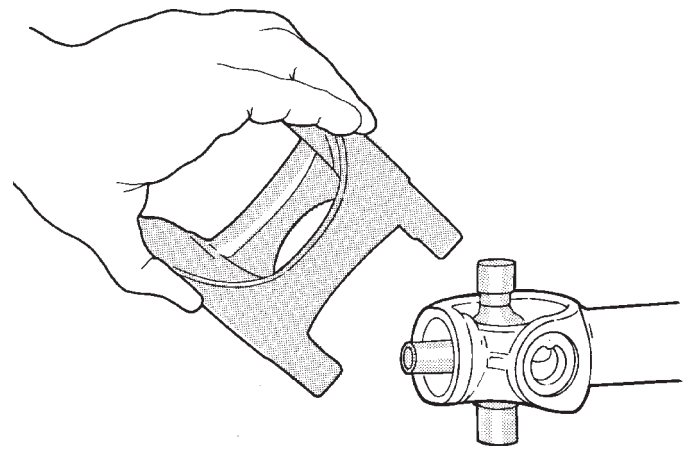

Fig. 31 Install Link Yoke
(7) Fit the link yoke on the remaining two trunnions and press both bearing caps into place (Fig. 31).
(8) Install snap rings.